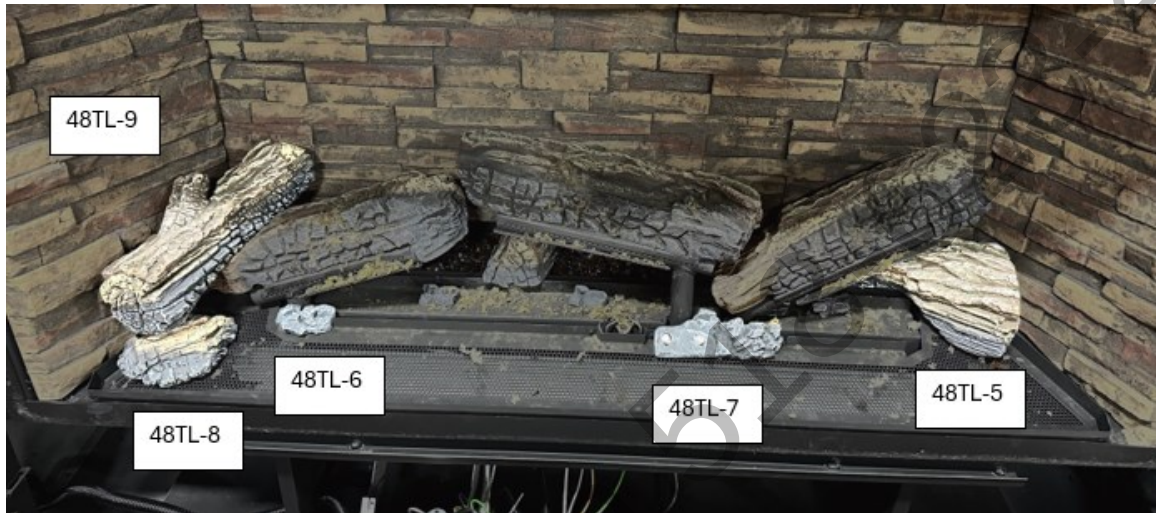

Figure 7 - Log Placement 3
4. Install the log #48TL-5 in the back right corner using the pem stud in the floor to locate the log. There will also be a groove in the bottom of this log where it straddles the lip of the light kit. Install log #48TL-6, #48TL-7, and #48TL-8 directly on the perforated metal as shown in Figure 7. Log #48TL-6 will use a stud to locate it in the correct position. Log #48TL-7 will use (2) studs to locate the log. Log #48TL-9 is installed using the studs in log #48TL-8 and #48TL-1.